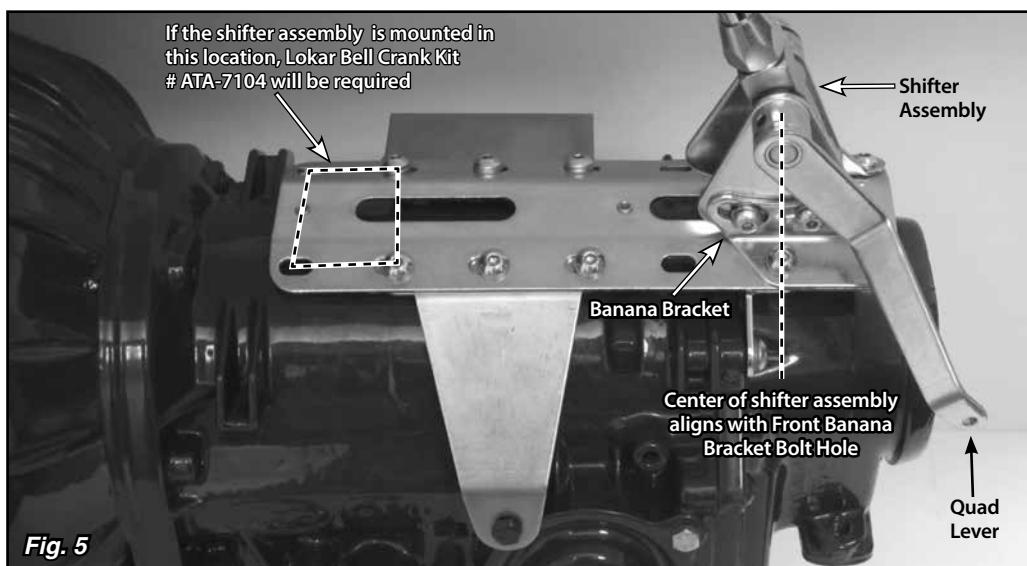

Fig. 5
Step 8: (Continued) Transfer that measurement to the transmission (or to the engine/transmission assembly if the engine is not installed in the vehicle). Mark that location on the main plate. The holes in the main plate that are closest to your mark are where the FRONT banana bracket bolts will need to be installed. **Fig. 5**
NOTE: If mounting the shifter assembly all the way forward, using the four bolt holes at the very front of the main plate, a **bell crank kit (Lokar Part No. ATA-7104, sold separately) will be required. Fig. 5**